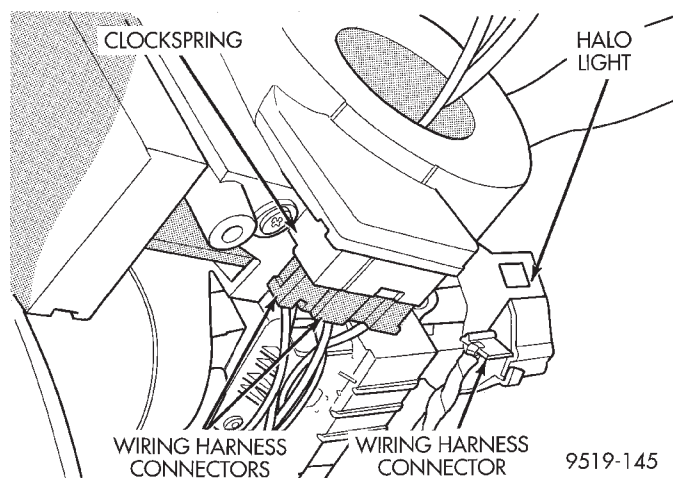

Fig. 12 Wiring Harness Connection To ClockSpring And Halo Light
(18) Remove the 2 wiring harness connectors from the clockspring (Fig. 12). Then remove wiring harness connector from lock housing halo light (Fig. 12).
(8) Install clockspring on switch housing. Install the 2 wiring harness connectors on the clockspring (Fig. 12). Then install wiring harness connector on lock housing halo light (Fig. 12).